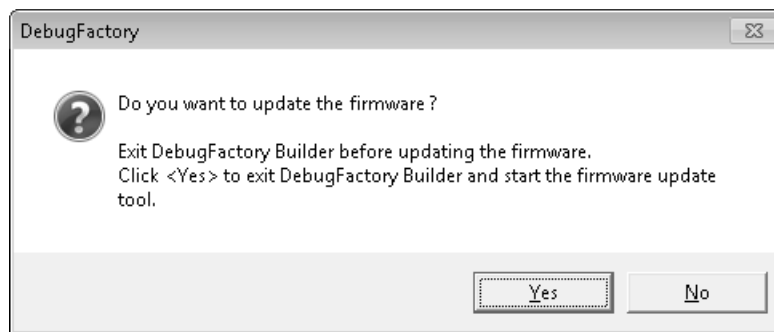

Figure 2.4.2 Firmware Update Start Check
1. The dialog shown in Figure 2.4.2 appears. Click <Yes>.